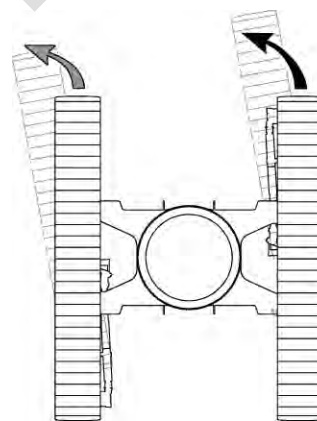

Figure 3-27. Travel Left (gradual turn)
- To make a GRADUAL LEFT TURN (Figure 3-27), move both crawler handles to front from the neutral position. Move the right crawler control handle farther to the front than the left crawler handle. The right crawler will turn faster than left crawler.